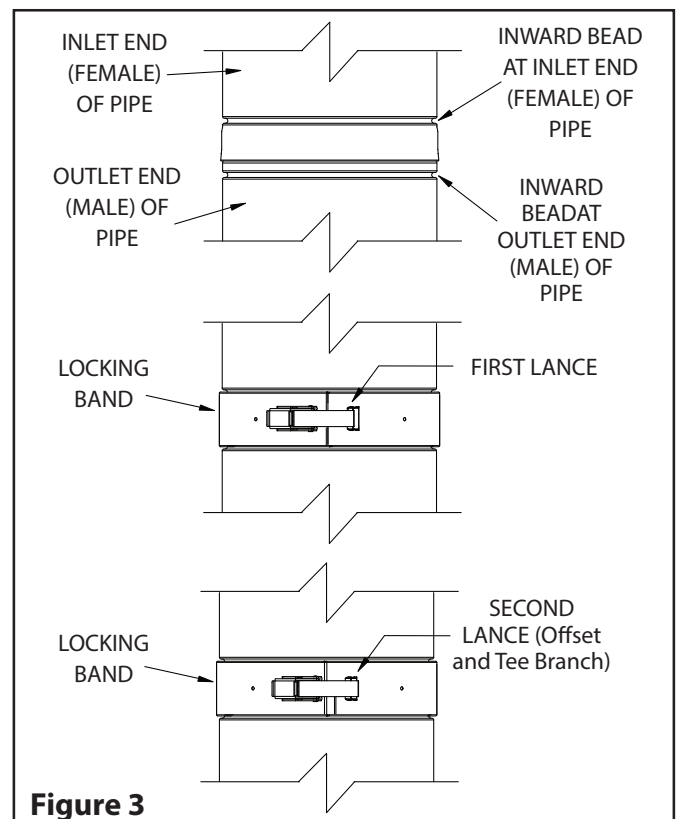

Figure 3
-3. Insert the Locking band into the inward bead located on both ends. Once fully engaged in the inward beads, secure locking band with the securing latch into the farthest lance (2nd lance), see **Figure 3**.
- Must latched into the furthest lance (2nd lance **Fig 3**).
- Secured with three (3) - #8 x 3/4" A/AB Stainless Steel screws, using the pre-pierced holes on each side of the latch and one opposite the latch through the locking band into the joint.